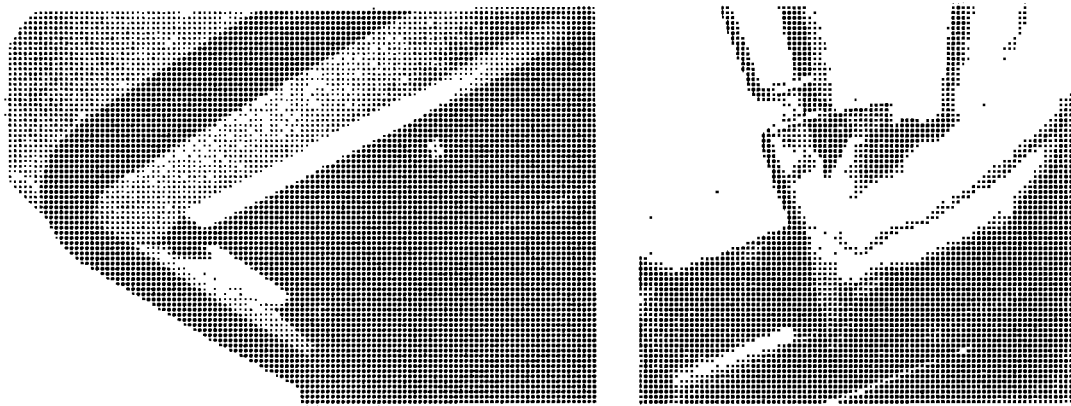

FIGURE 20.
- Partially remove the cover from the bottom seat cushion to allow access to the top of the seat base frame. Unclip cover from seat frame as needed. See FIGURE 20.
11. Install cover on bottom seat cushion. See FIGURE 20.